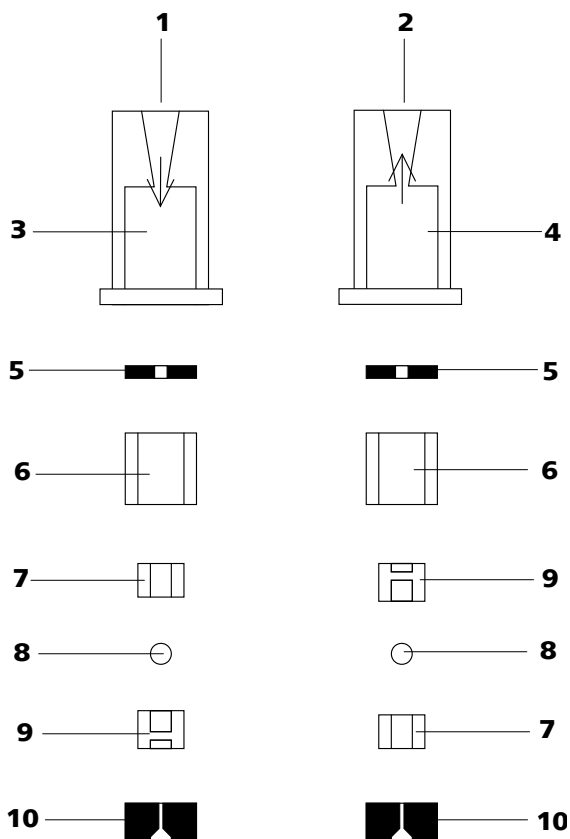

Figure 42 Components of the inlet valve and outlet valve
- The inlet valve and the outlet valve consist of the same, just differently arranged components (*see figure 42, page 80*).
Reassemble valve components *according to figure 42, page 80*.
- Lay the other valve components above another in the correct sequence (*see figure 42, page 80*).
If this is not the case, the valve has to be dismantled again and be reassembled correctly (*see figure 42, page 80*).